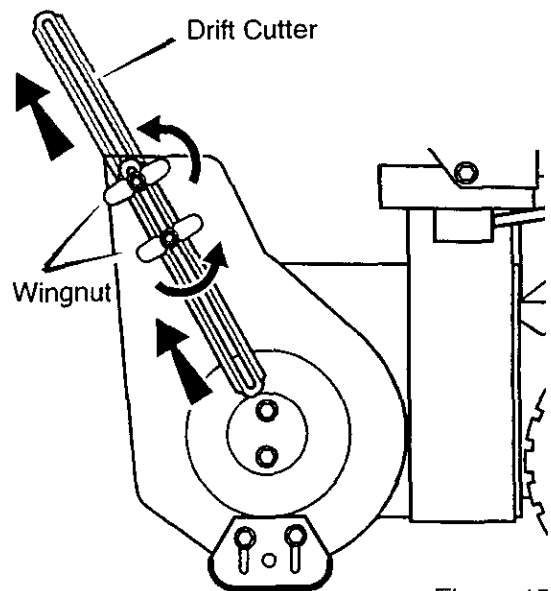

Figure 15
1. Loosen the **wingnuts** that secure the **drift cutters** to the auger housing. See Figure 15.